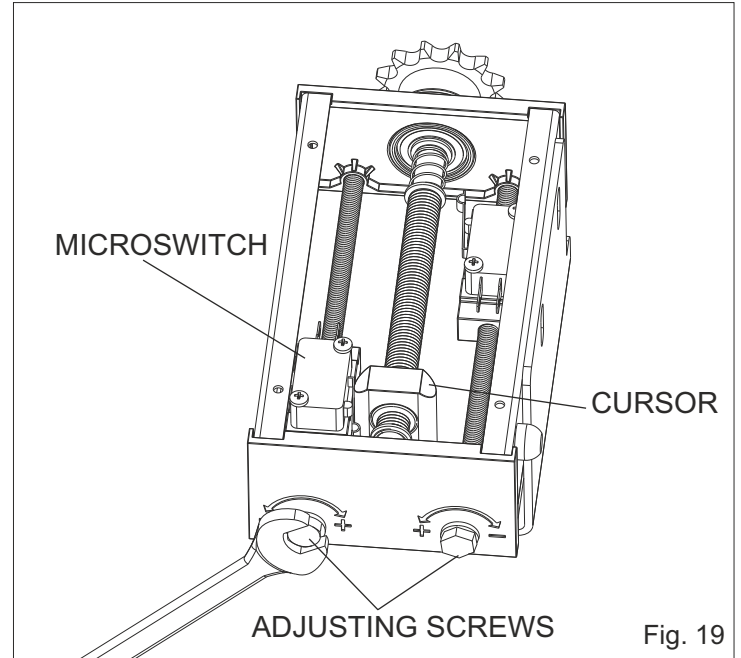

Fig. 19
- act on the adjusting screw so that the microswitch can activate the contact with the cursor (Fig. 19)